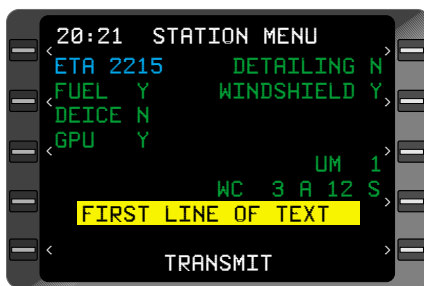

Figure 8-36
22. **ENTER** Key - DEPRESS. The cursor will move to first line of free text. See Figure 8-36.